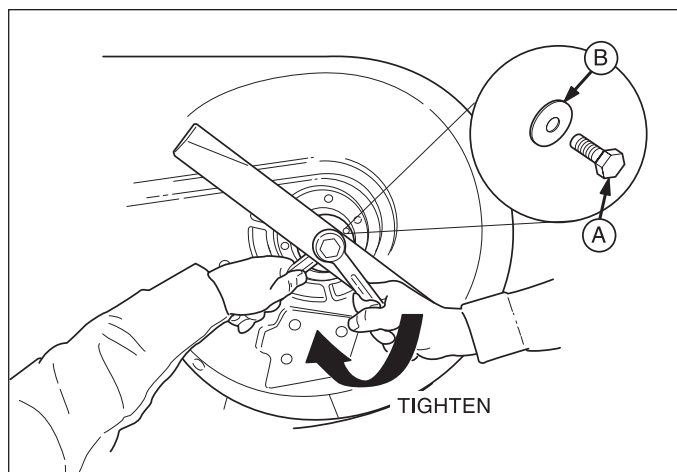

Figure 15. Check Blade Torque
3. Check that blades are installed with the tabs pointing up toward deck as shown in Figure 15. Torque bolts to 70 ft.lbs. (94 N.m.).